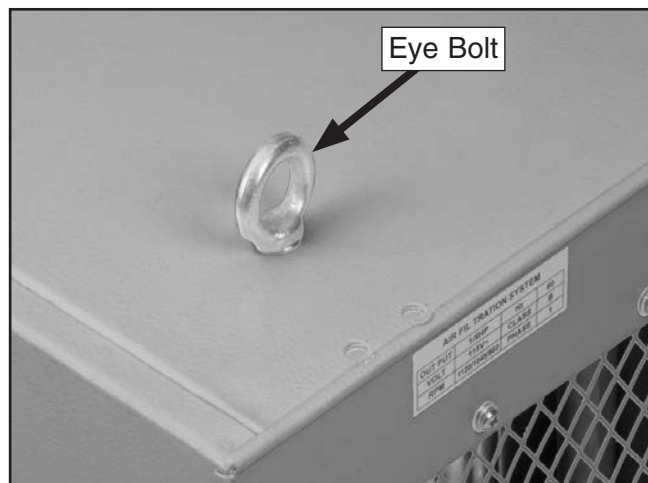

Figure 13. Eye bolt correctly seated.
3. Attach (4) M6-1 x 20 eye bolts to air filter and tighten until snug (see **Figure 13**).